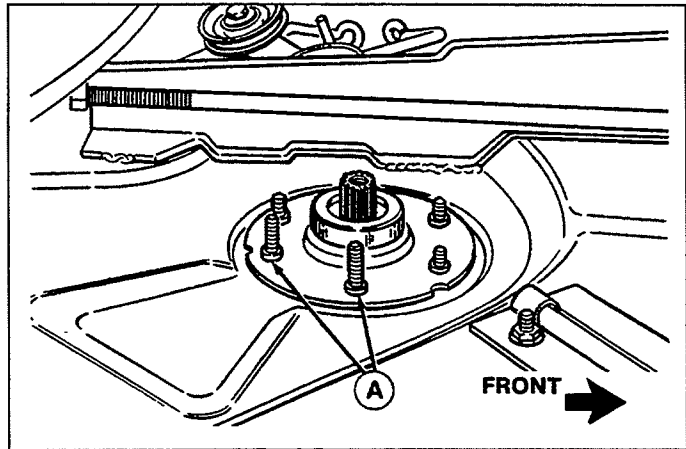

Figure 3.
6. See figure 3. Replace the two 3/4 tapite screws as shown with two 5/16-18 x 7/8 capscrews supplied.